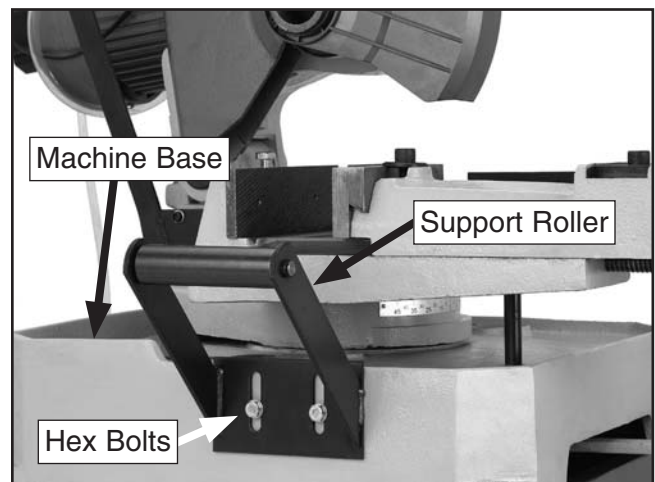

Figure 16. Support roller.
7. Connect the support roller to the machine base by removing the two hex bolts, aligning the bracket over the holes, as shown in **Figure 16**, then re-installing the hex bolts. Before fully tightening the hex bolts, use a straightedge to make sure the roller is even with the vise table.